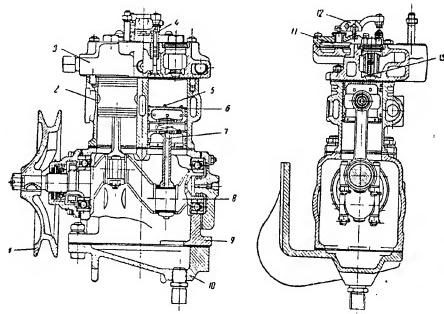

Fig. 28. Compressor
**Compressor** (Fig. 28) — two-cylinder, single-stage, arranged on the left-hand side of the engine; belt driven from a pulley fitted on the crankshaft. The air is admitted to the compressor through holes in